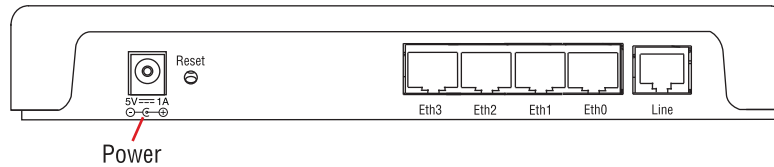

Figure 3. CL1300 power connection
- The power connection to the CL1300 is shown in figure 3 on page 17